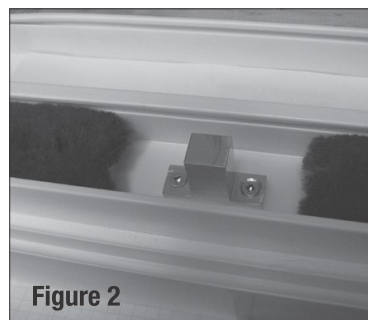

Figure 2
- 2 Insert the foam seals in the frame cavity and slide them towards the stop. See **Figure 2**.